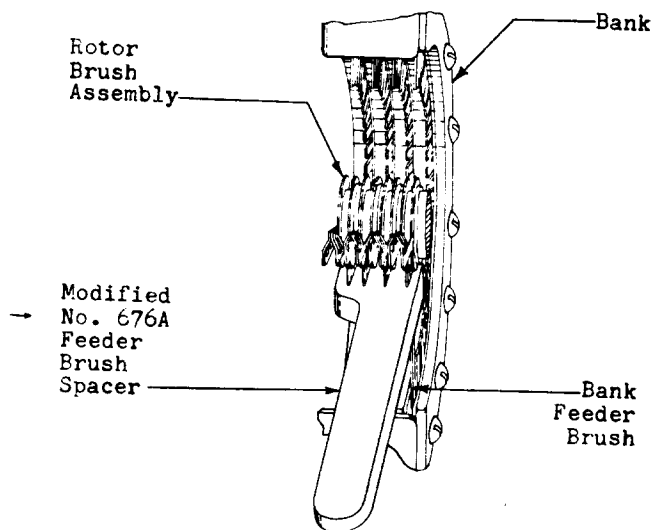

Fig. 13 - Method of Using Modified No. 676A Feeder Brush Spacer
3.006 Removing Switch From Bank: In replacing some parts of the switch, it may be necessary to remove the switch from the bank in order to obtain access to the parts. To remove the switch from the bank, place a No. 676A feeder brush spacer over the feeder brushes in the position shown in Fig. 13. If the switch has 2- or 4-bank feeder brushes, use a feeder brush spacer which has been modified as outlined in 3.005. Remove the frame mounting screws with the 4-inch regular screwdriver. Pull the switch frame forward (away from the bank) until the rotor brush assembly is clear of the feeder brushes. Where there
3.12 In replacing the rotor assembly first rotate it until the brushes are in the horizontal position. Put the proper No. 676A feeder brush spacer, modified as covered in 3.005, in the position shown in Fig. 13.